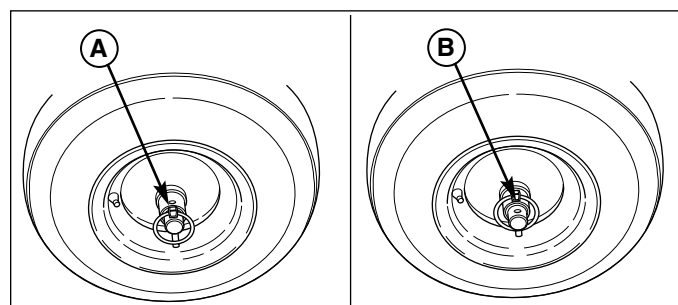

Figure 6. Traction Drive Lock
For easy turning when pushing the snowthrower, disengage the right wheel using the traction lock pin (See Figure 6.)
2. To DISENGAGE the traction drive lock, insert the Traction Lock Pin (A, Figure 6) through the outer hole in the right axle. The unit can now be pushed with minimal resistance.
3. To ENGAGE the traction drive lock, align the hole in the hub with the inner hole in the axle, and install the Traction Lock Pin (B).